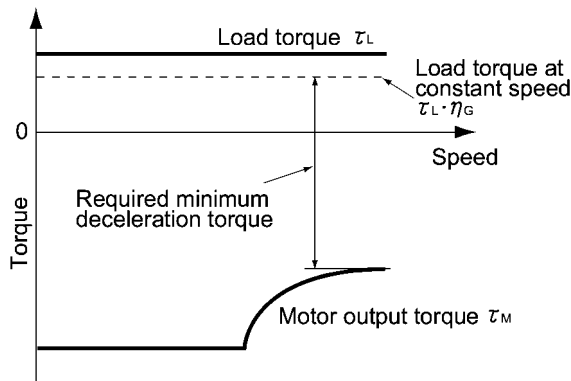

Figure 7.5 Example Study of Required Minimum Deceleration Torque (1)
- 2) Calculate the required minimum deceleration torque (See Figures 7.5 and 7.6.)